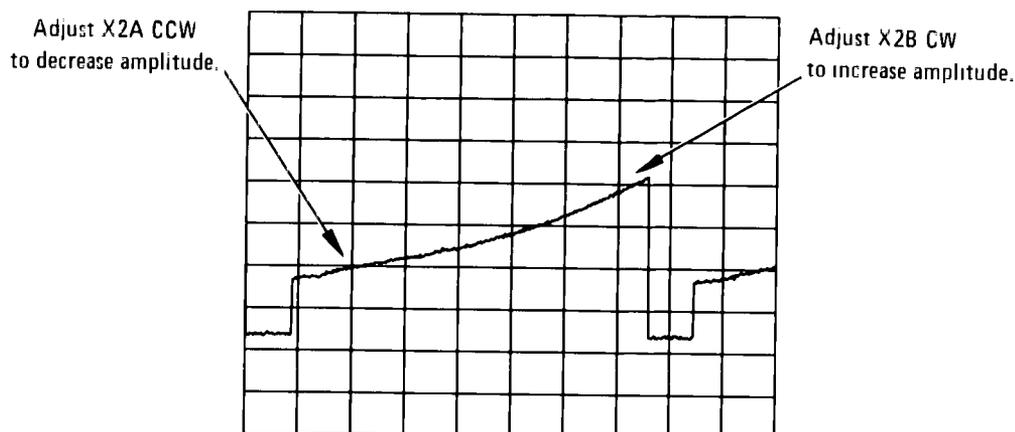

Figure 5-42. Oscilloscope Display of SRD Bias Waveform
13. Repeat step 11. After this, disconnect the detector and connect the scope probe to A24TP12 (SRD BIAS) as shown in Figure 5-40. Adjust the scope's vertical sensitivity to view the waveform on TP12. If TP12 exhibits a slight upward slope, as shown in Figure 5-42, proceed to step 14. If TP12 exhibits a flat or downward slope, adjust X2A until a upward slope is displayed on TP12 (do not adjust X2A more than 1/8 of a turn). If adjusting X2A does not provide an upward slope on TP12, adjust X2B until a upward slope is displayed on TP12 (do not adjust X2B more than 1/8 of a turn). If neither of these adjustments provide an upward slope on TP12, repeat steps 9 through 13.